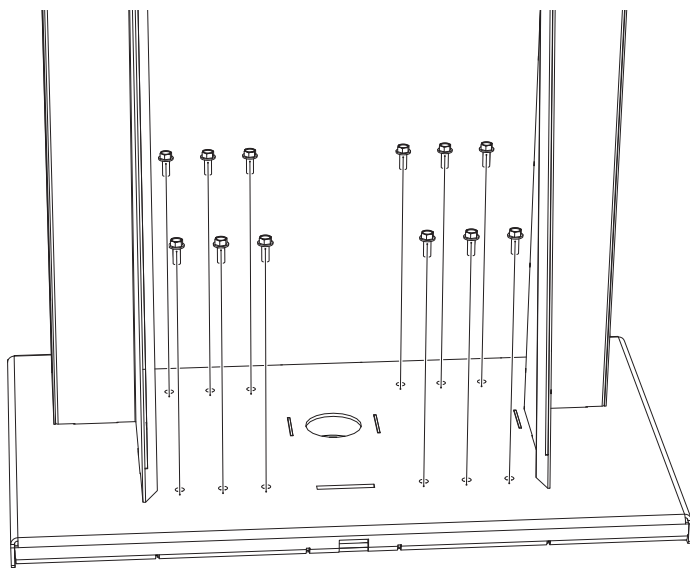

Figure 7: Attach the stand to the floor bracket
3. Secure the stand onto the floor bracket using the 12 screws as show in Figure 7.